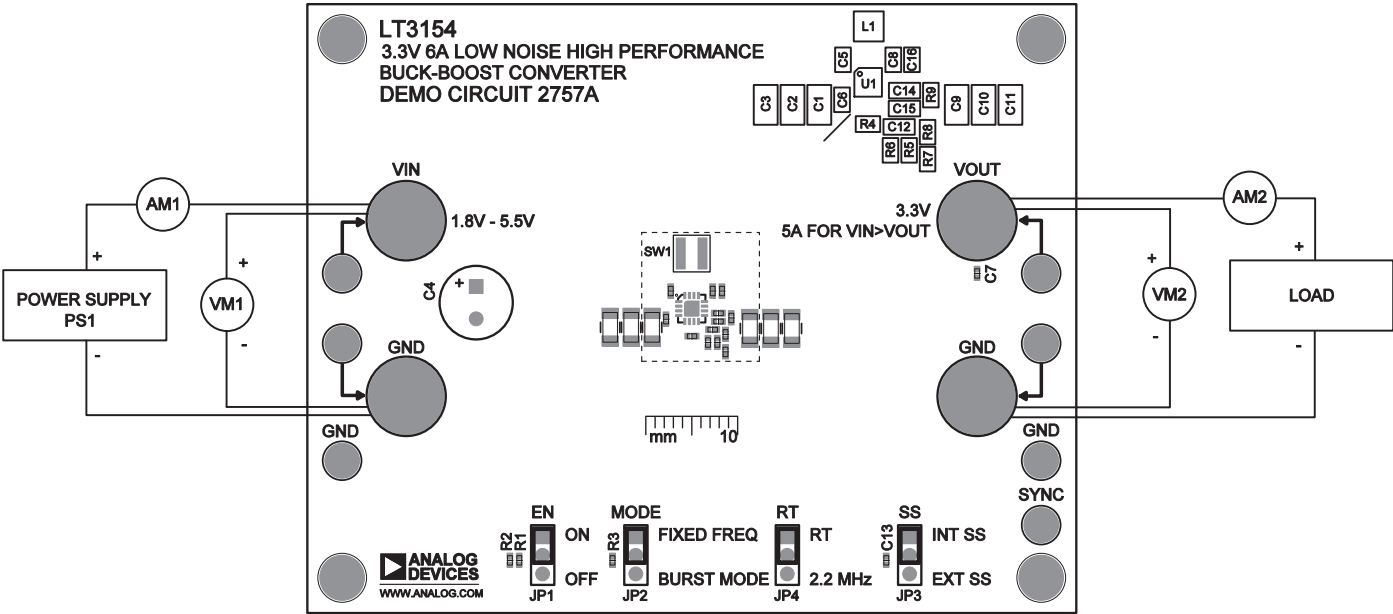

Figure 1. Test Procedure Setup Drawing for DC2757A
Using short twisted pair leads for any power connections and with all loads and power supplies off, See Figure 1 for the proper measurement and equipment setup. The power supply (PS1) should not be connected to the circuit until told to do so in the procedure below.
2. With power OFF, connect the power supply (PS1) as shown in Figure 1. If accurate current measurements are desired (for efficiency calculations for example), connect an ammeter in series with the supply as shown. The ammeter is not required, however.
5. Connect a 5A load to V_{OUT} as shown in Figure 1 (0.66Ω for $V_{OUT} = 3.3V$). Connect an ammeter if accurate current measurement or monitoring is desired.